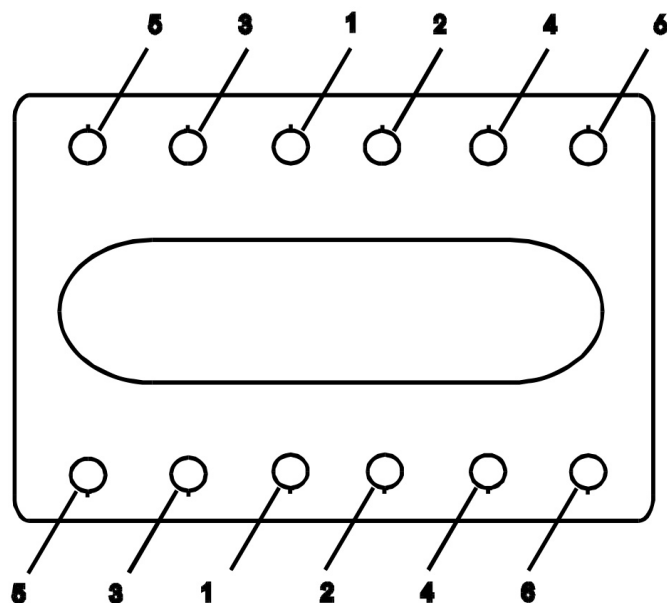

FIGURE 1
NOTE: Depending on gage size there may be less bolting than shown in Figure 1. Start at the center and follow “Z” pattern outward to the limit of bolting on a special gage.
- 2) Hold gage firmly, and loosen nuts starting at both ends of each section and then proceeding from both ends to the center of each section as shown in Figure 1.
- 9). For reflex gages RL and RM, quickly turn over assembly onto back side of U-bolts. Assemble nameplate, washer, and nuts to U-bolts. Tighten nuts with fingers. Using a torque wrench, tighten nuts in five **ft-lb** increments, following the sequence in Figure 1 until the torque values shown in Table 1 are reached.
NOTE: Depending on gage size there may be less bolting than shown in Figure 1. Start at the center and follow “Z” pattern outward to the limit of bolting on a specific gage.
Using a torque wrench, tighten nuts in five **ft-lb** increments, following the sequence in Figure 1 until the torque values shown in Table 1 are reached.